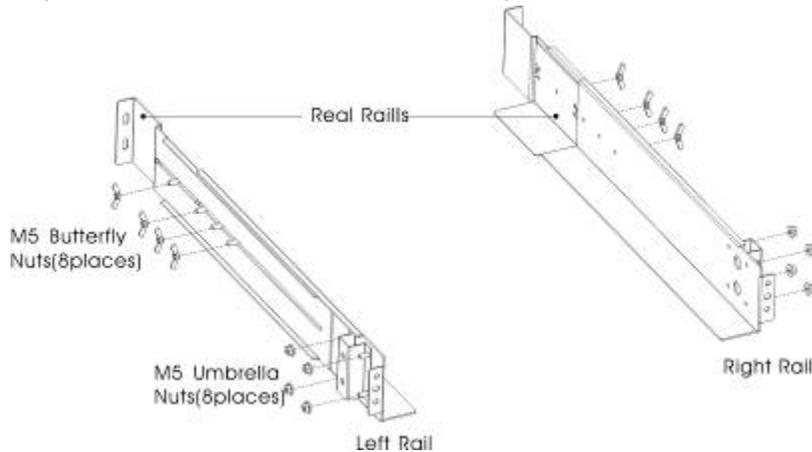

Figure 4 Securing the Rails
1. Assemble the left and right rails to the rear rails as shown in Figure 4. Do not tighten the screws. Adjust each rail size for the depth of your rack.
3. Tighten four M5 Unbrella Nuts in the side of rail assembly (see Figure 4).